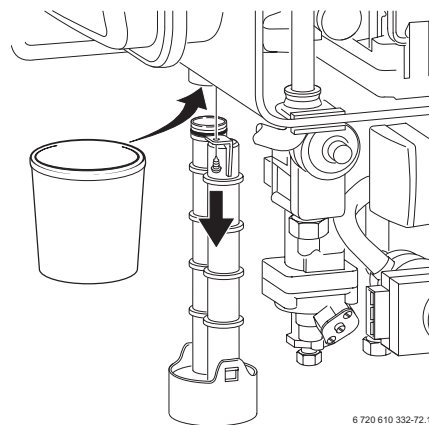

Fig. 53
- ▶ Unscrew condensation trap and place suitable container underneath. Refer to fig. 53.
In order to prevent spillage of condensate, the condensation trap should be completely removed, (see page 37, fig. 53).